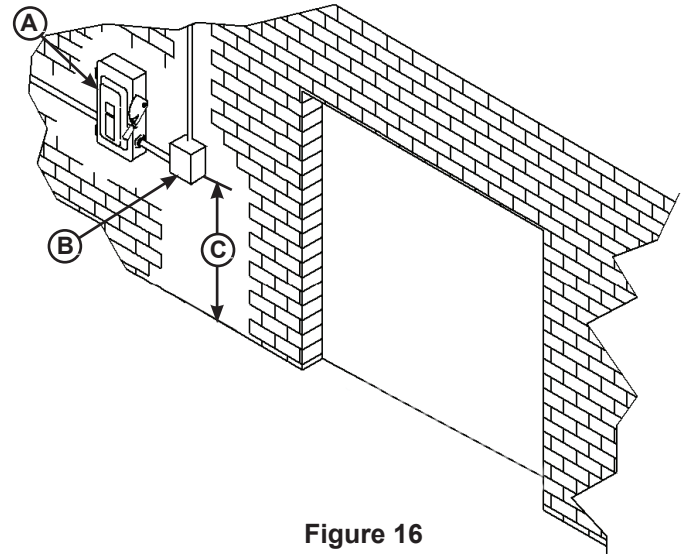

Figure 16
1. Mount the motor starter box (**B**) at location specified on the layout drawings; bottom of control panel-to-dock floor distance (**C**) must be at least 72 in. (1828.8 mm). See Figure 16.